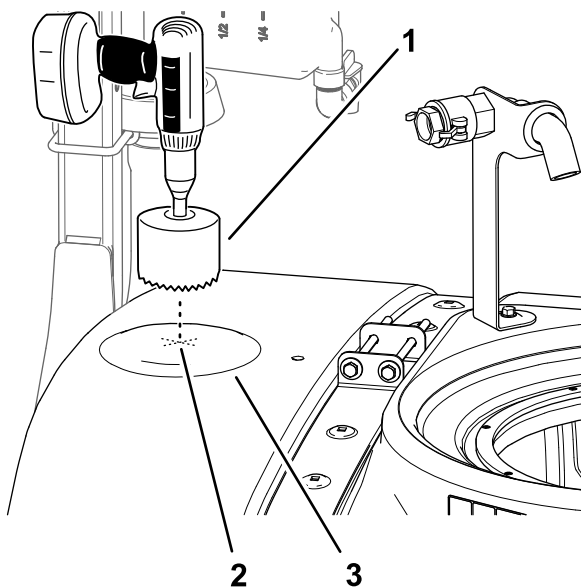

Figure 26
2. Locate the forward location on the top of the tank as shown in Figure 26.
3. Use a 9 cm (3-5/8 inch) hole saw to drill a hole at the drill mark (Figure 26).